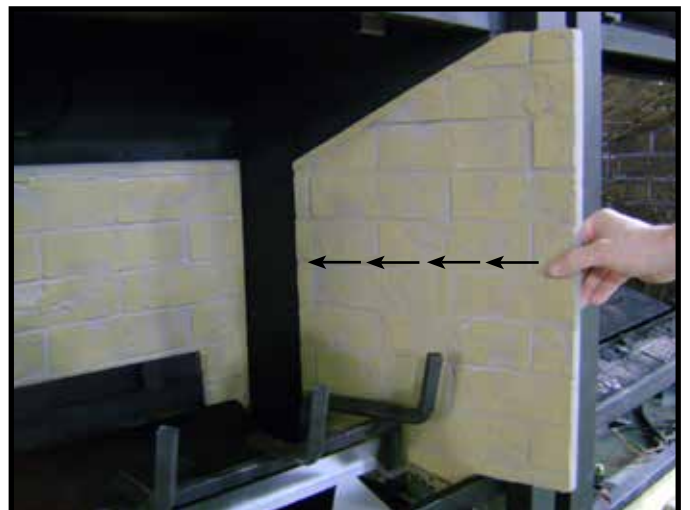

Figure 4
4. Slide the right refractory panel completely into the firebox until it securely rests against back refractory panel. Make sure that right refractory panel makes full contact with the right sidewall of the firebox. See Figure 4.